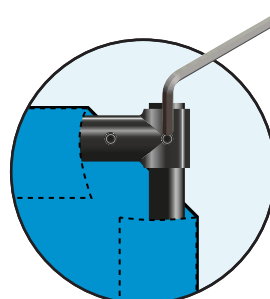

Fig 7.
6. Secure the T joint on the end of the pole by tightening the grub screws with the allen key provided. (Fig 7)